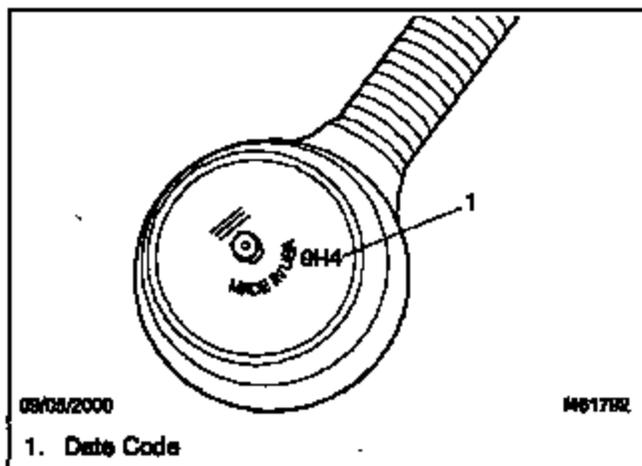
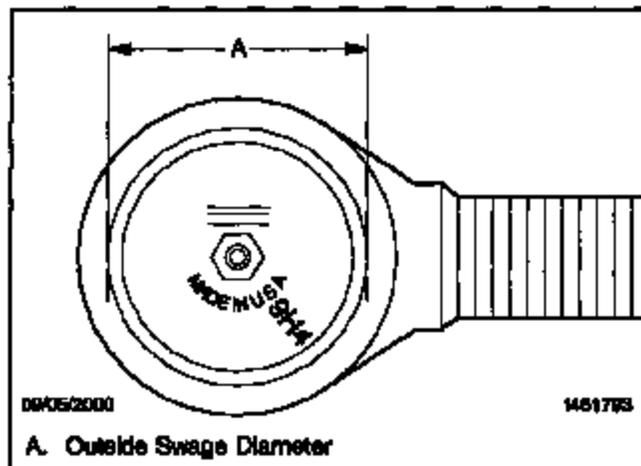

Fig. 1, Location of Date Code
Fig. 2, Measure the Outside Swage Diameter
3. Inspect both tie rod ends for the date code (Table 3). See Fig. 1 for location of date code. Replace both tie rod ends if either tie rod end has one of the following date codes and the sockets are size 20. To identify a size 20 socket, measure the outside swage diameter. See Fig. 2.